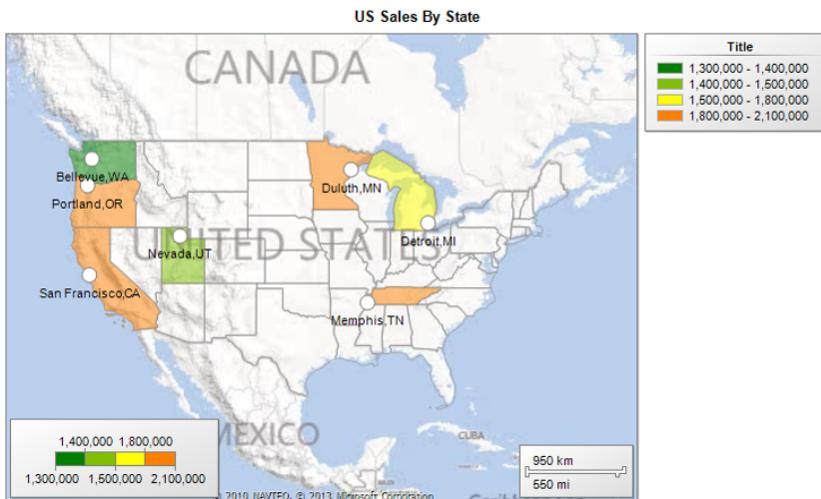

Figure 6-34
5. Figure 6-34 shows the completed map after you have saved and previewed your map.